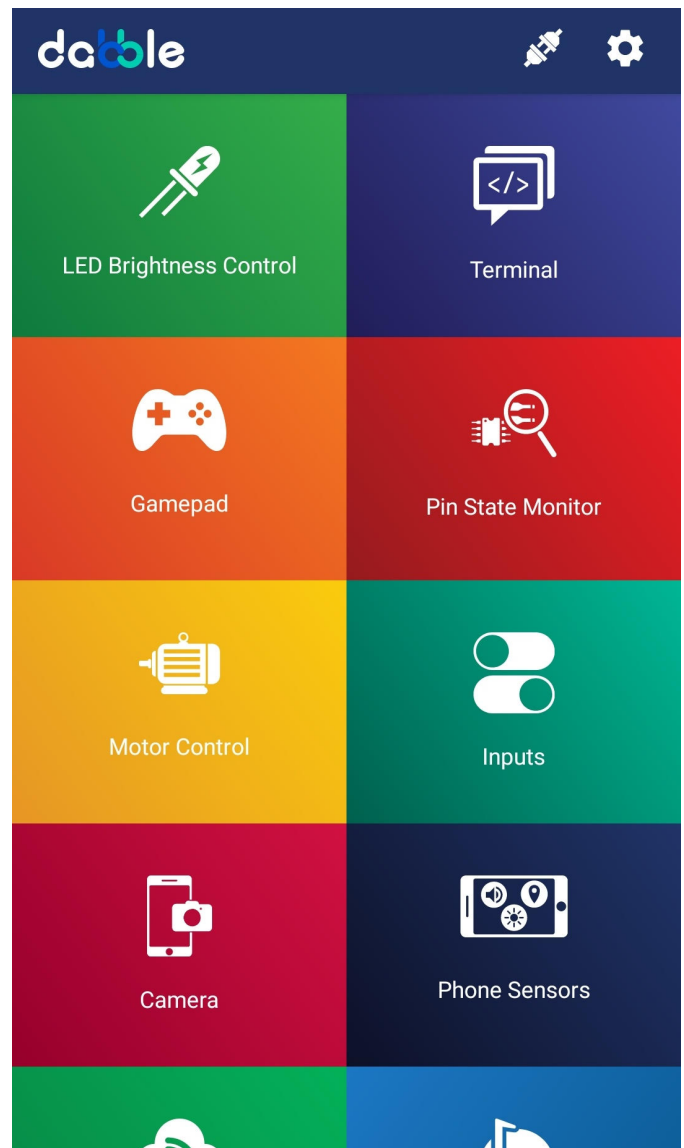

Fig. 3. Dabble Interface
- 6) Open the Dabble app and connect to the ESP32 via bluetooth. The app interface is available in Fig. 3